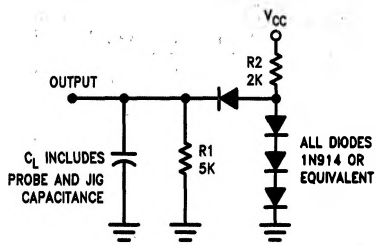

FIGURE 1
**Receiver Switching Characteristics** (Figures 1 and 2)